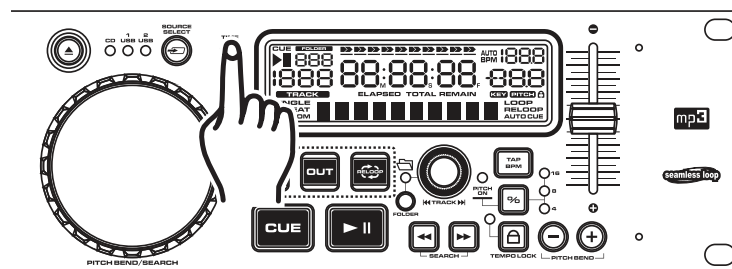

Figure 14
The time may be displayed in three different modes; Total Remain, Remain, and Elapsed. During normal playback, pressing the *TIME BUTTON* (5) as in figure 14, will change the time display information (26) in the LCD. The following is a break down of the time settings and their definitions:
1) TOTAL REMAIN (34) - This details the time in the *LCD* as the current CDs' total remaining time.
2) REMAIN (34) - This details the time in the *LCD* as the current tracks' remaining running time.
**TIME BAR INDICATOR** - The time bar in the LCD visually details the time defined in the *TIME METER* (26). This bar is also dependent on the selected time function; *REMAIN* (34) or *TOTAL REMAIN* (34). This bar will begin to flash when 15 seconds of a track remain and will begin to rapidly flash when three seconds of a track remain. The flashing bar is a great visual reminder a track is about to end. The flashing bar will function regardless of which time mode the unit is in.